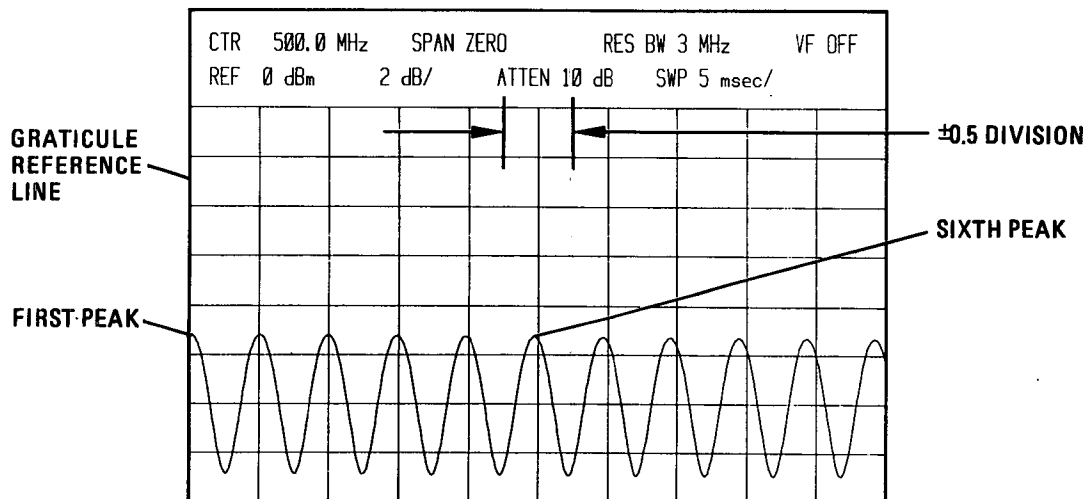

Figure 4-23. Sweep Time Accuracy,  $5 \text{mSEC}/\text{DIV}$
10. Use Table 4-21 to check sweep time accuracy for sweep times of  $5 \mu\text{SEC}$  through .1 SEC. For these sweep times, 10 sweeps will be displayed. Adjust TRIGGER LEVEL of spectrum analyzer to place a peak of sine wave on graticule reference line. Sixth peak from reference should be within  $\pm 0.5$  divisions of center graticule line. (See Figure 4-23 for an example of this display.)